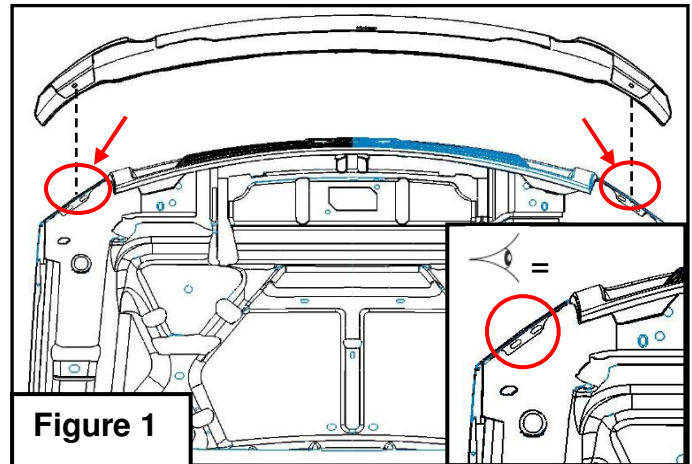

Figure 1
2. Trial fit Hood Shield by aligning the mounting holes of the Hood Shield with the matching holes in the hood. **(Fig. 1)**
3. Attach the screw plug (A) to the two inside hood slots. **(Fig. 1)**
5. Clean grille area where the 3M tape will be applied to using Isopropyl Alcohol. Re-fit Hood Shield to the factory hood by aligning the Hood Shield Slots up with the factory slots. **(Fig. 1)** Attach Hood Shield to the hood by placing a washer (C) on each of the mounting screws (B) and inserting the screws through the Hood Shield slots and into the plastic screw plug (A). **Tighten screws just enough to hold hood shield in place.**